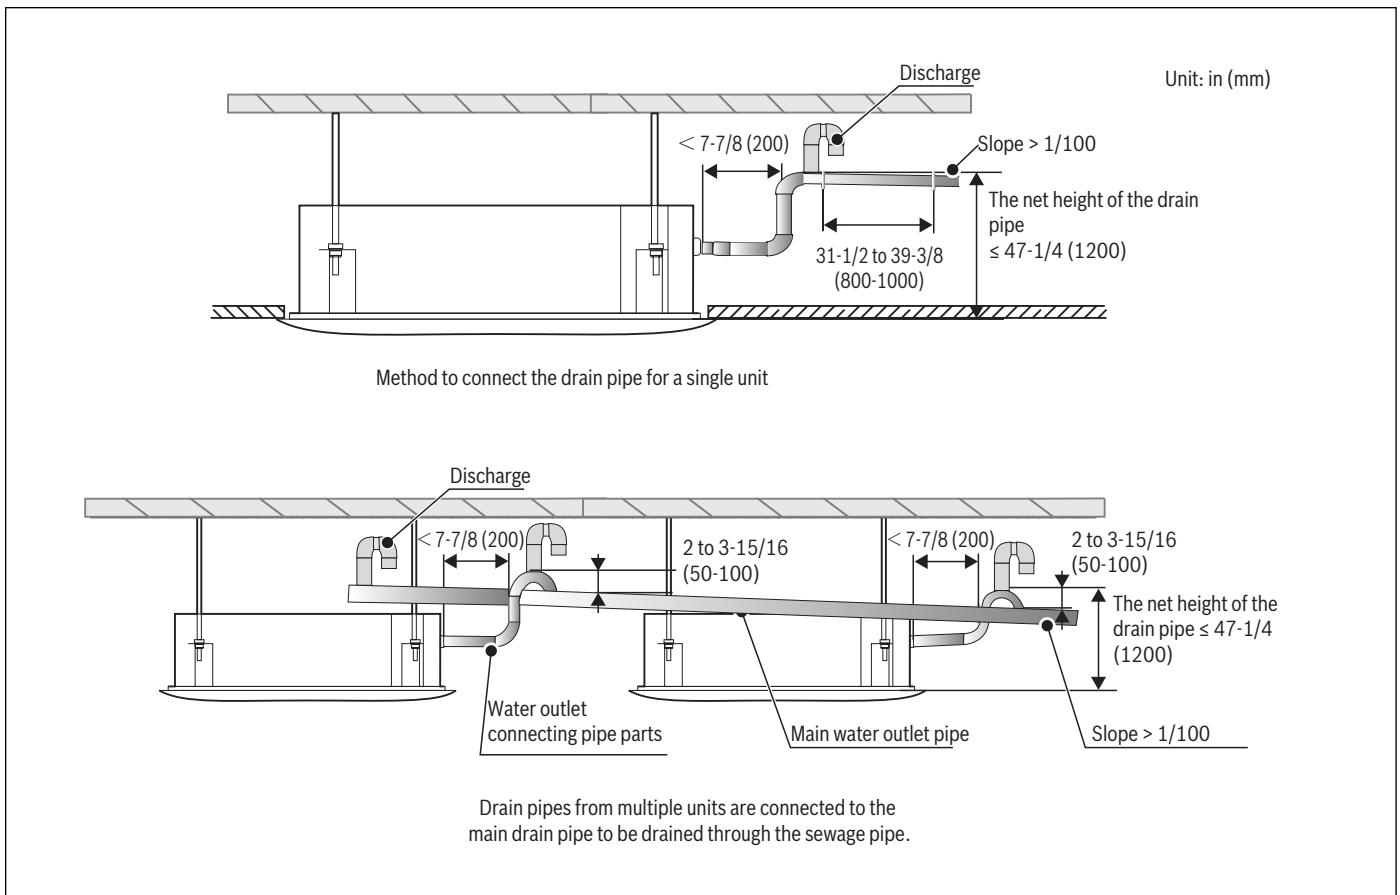

Figure 36
- When unifying multiple drain pipes, install the pipes as shown in Figure 36. Select converging drain pipes whose gauge is suitable for the operating capacity of the unit.